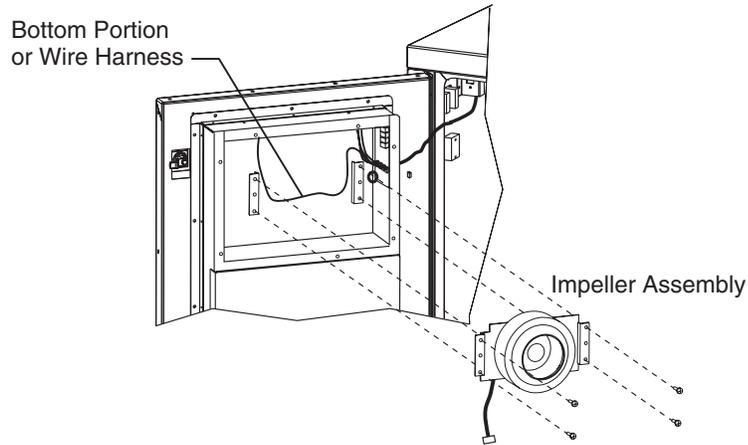

Figure 8-2: Removing the Enclosure Impeller Assembly
5. Remove the impeller assembly by removing the 4 mounting screws from the impeller mounting plate. See Figure 8-2.
When re-installing the impeller assembly: One cable of the wire harness in the enclosure fan compartment runs behind the impeller assembly, as shown in Figure 8-2. The bottom portion of this cable must not extend beyond the bottom of the impeller mounting plate. Check to make sure that the cable is not pinched between the impeller mounting plate and the mounting brackets on the door.